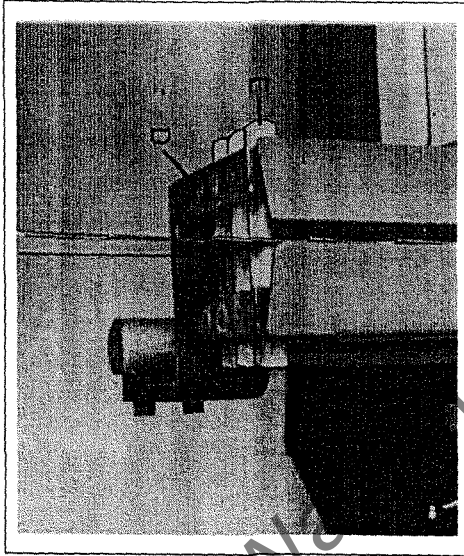

Fig 19
1. Slacken all M8 grub screws 'D' (FIGS 19 and 20).
2. Slide guide elements 'E' (FIGS 19 and 20) away from blade.